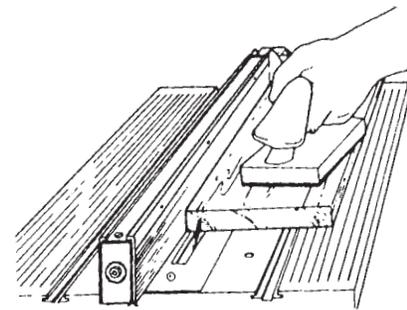

Figure D-15
- Rabbet cuts require two passes. Cut the surface of the stock first. See Figure D-15. Then reposition the fence if necessary and turn the